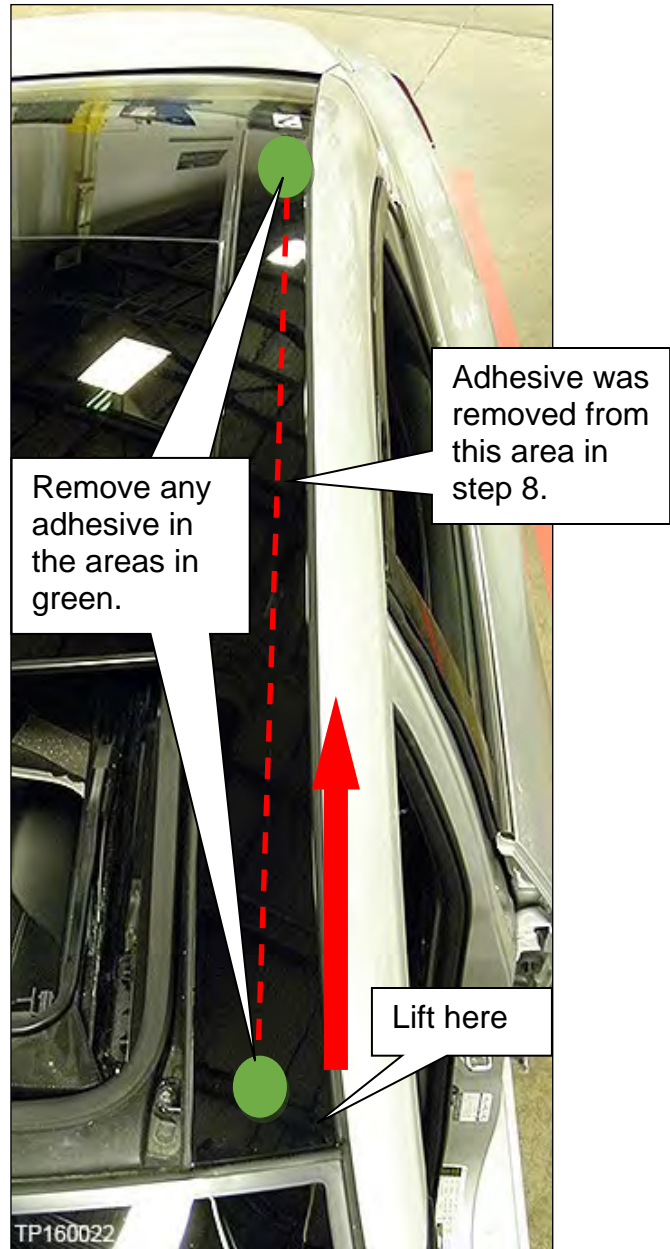

Figure 32
12. If the roof finisher still will not release after the pins have been released, cut away any adhesive under the roof finisher indicated by the green circles as shown in Figure 32.